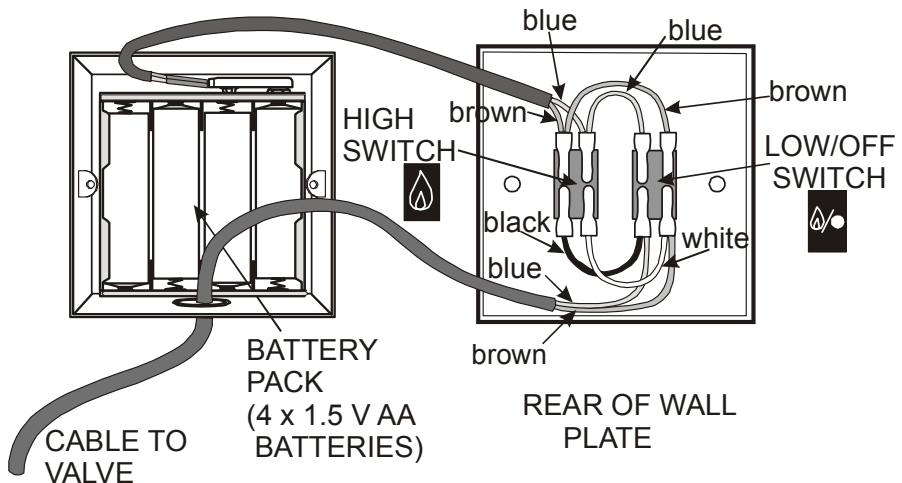

Figure 60
3. Make the connections on the wall switches as shown in **Figure 60**.